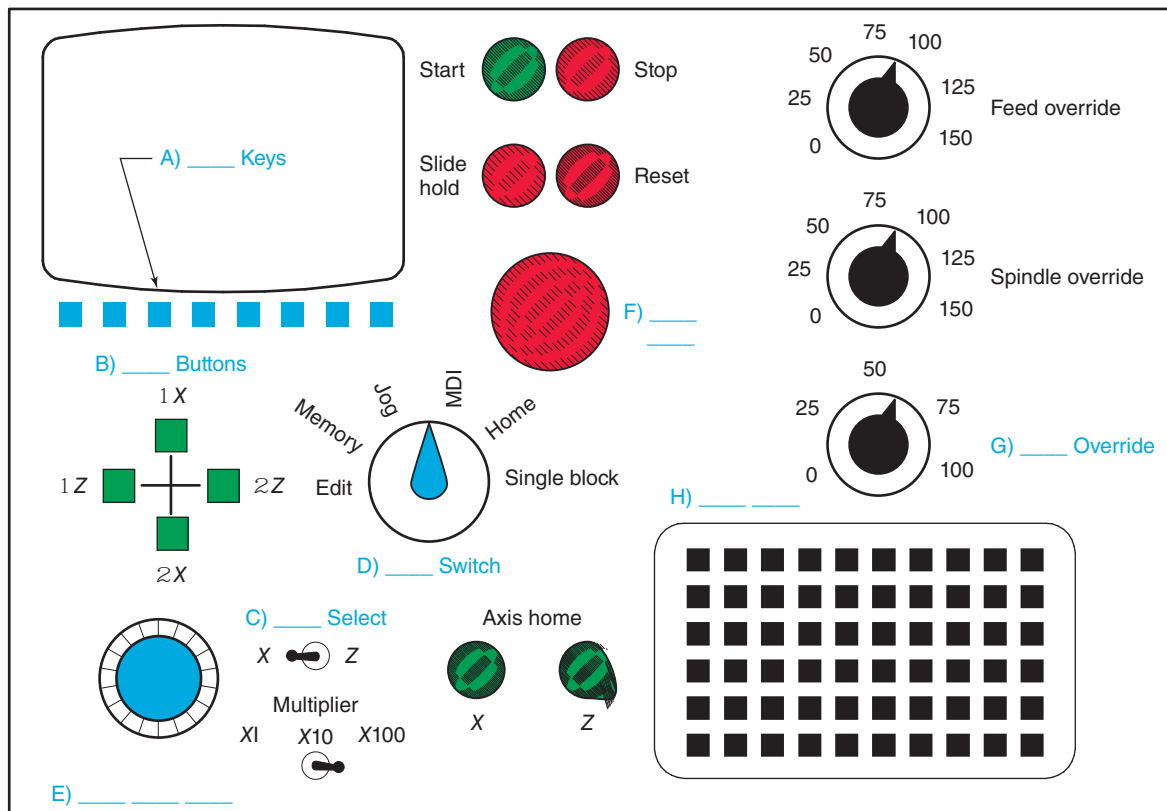

Figure 19-18 Identify the lettered controls and features.
- On a sheet of paper, identify the CNC controls A through H in Fig. 19-18 and describe the function of each. (LO 19-2)